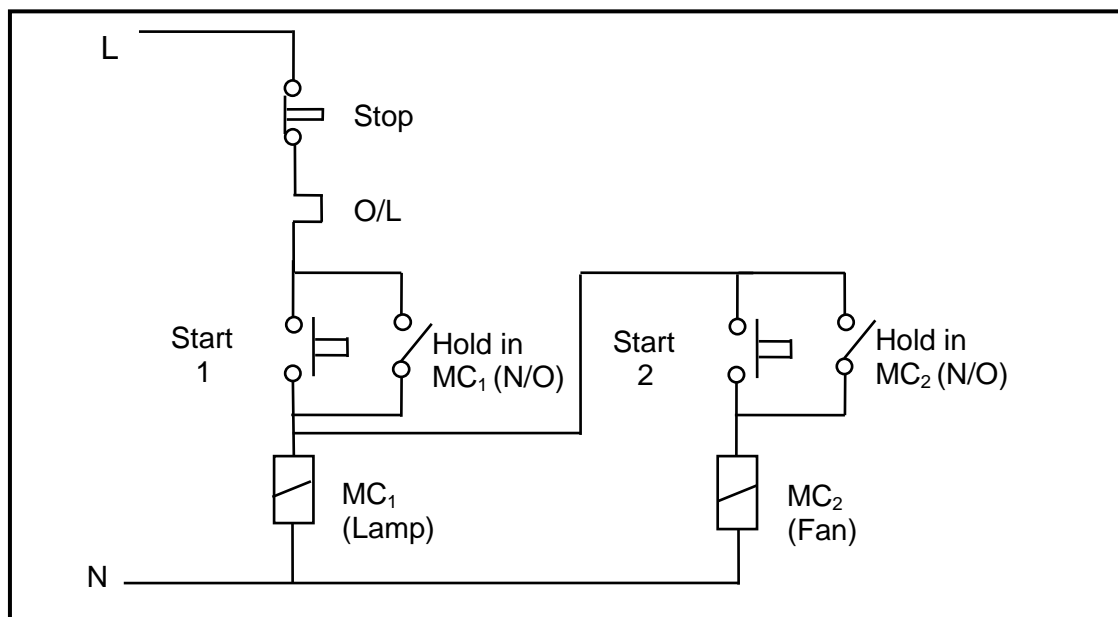

FIGURE 6.2: CONTROL CIRCUIT OF A SEQUENCE STARTER
6.4 Refer to the circuit in FIGURE 6.2.
Draw the PLC ladder diagram that would execute the same function of the relay control circuit in FIGURE 6.2.